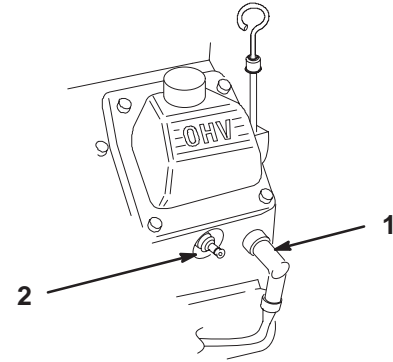

Figure 38
2. Pull the wire(s) off the spark plug(s) (Fig. 38). Now clean around the spark plug(s) to prevent dirt from falling into the engine and potentially causing damage.
3. Push the wire(s) onto the spark plug(s) (Fig. 38).